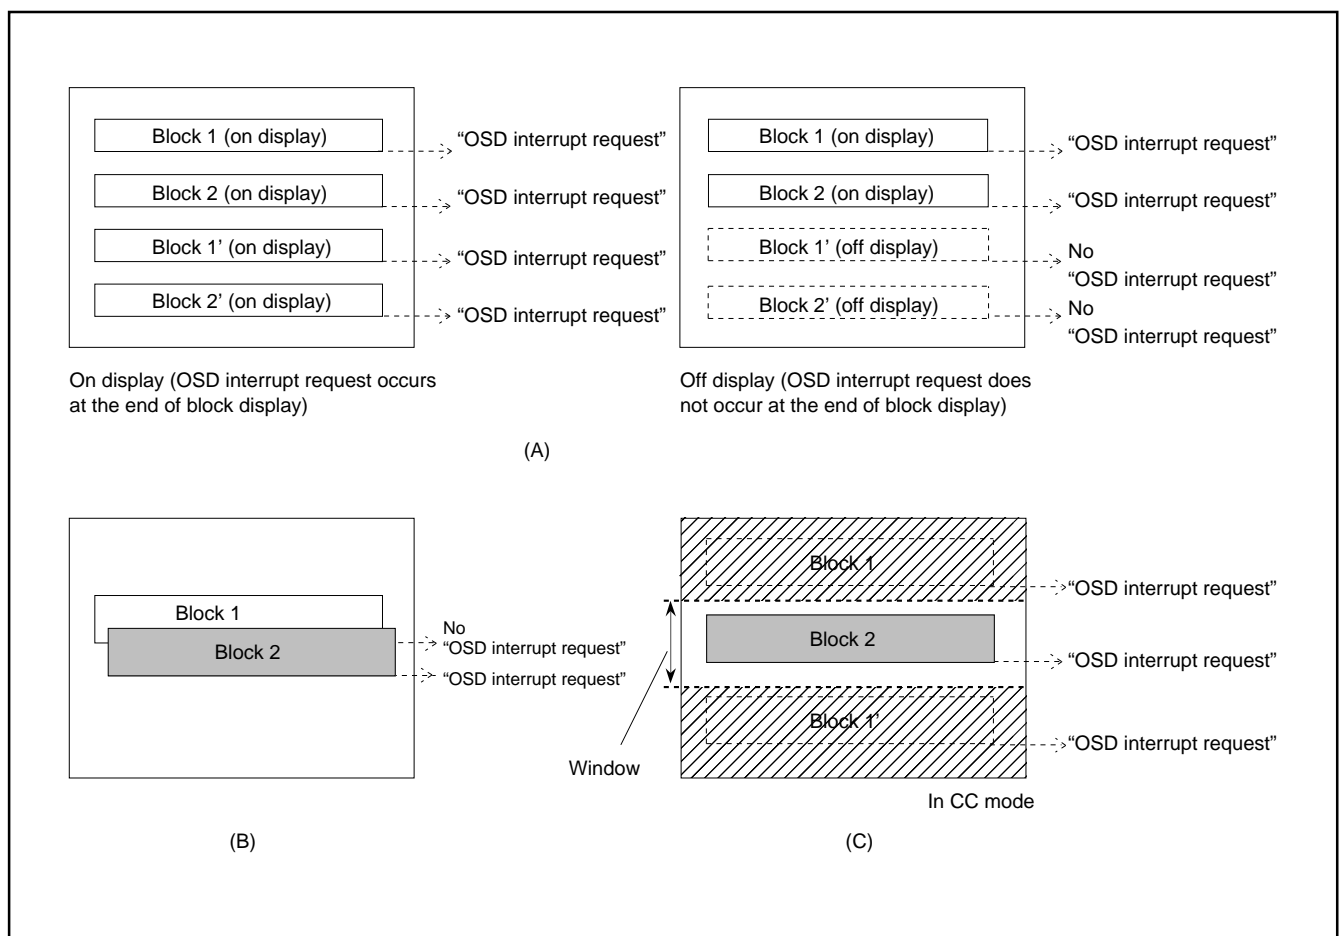

Fig. 75. Note on Occurrence of OSD Interrupt
- Notes 1:** An OSD interrupt does not occur at the end of display when the block is not displayed. In other words, if a block is set to off display by the display control bit of the block control register (addresses 00D216, 00D316), an OSD interrupt request does not occur (refer to Figure 75 (A)).
- 2:** When another block display appears while one block is displayed, an OSD interrupt request occurs only once at the end of the another block display (refer to Figure 75 (B)).
- 3:** On the screen setting window, an OSD interrupt occurs even at the end of the CC mode block (off display) out of window (refer to Figure 75 (C)).